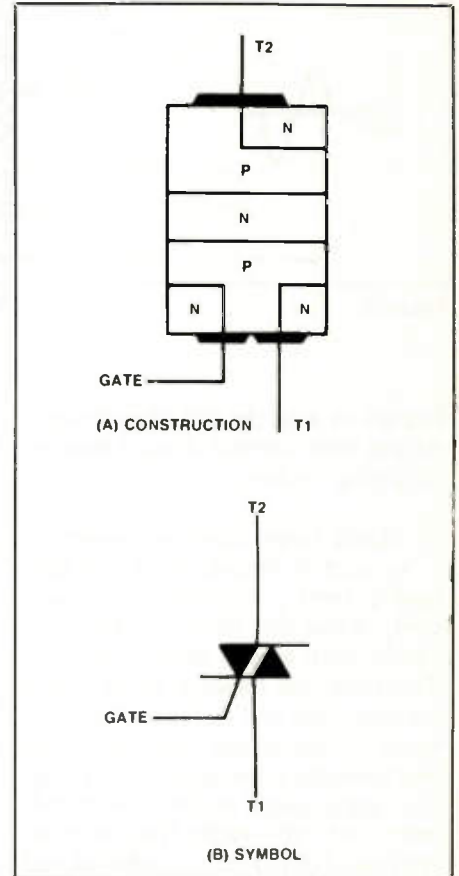

Figure 3.
The triac is a five-layer device that functions like two SCRs in inverse-parallel connection. Figure 3(A) shows that when terminal two (T2) is
When applied voltage makes T2 negative relative to T1, the thyristor is essentially a NPN device whose top N layer acts as the cathode and whose P section of the T1 bottom layer acts as the anode. Electrons can then flow from T2 to T1. Note that the gate is common to both "SCRs." Figure 3(B) shows the standard triac symbol.